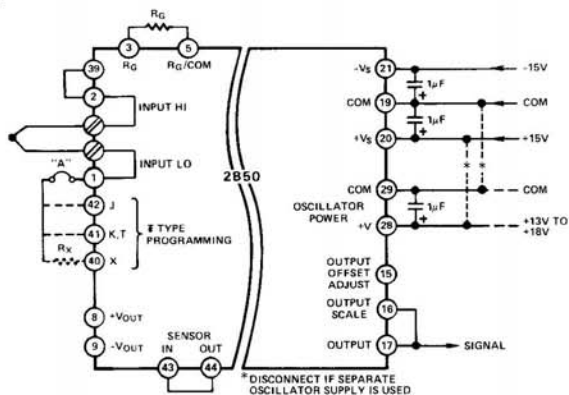

Figure 2. Basic 2B50 Application
The connections shown in Figure 2 are common to most applications using the 2B50, and, in many cases, will be all that is required.
Two sets of parallel thermocouple input connections are provided. The thermocouple input may be connected by screw terminals (Input+, Input -) or to terminal Pins 1(-) and 2(+) in cases where thermocouples are to be remotely terminated. The following sections describe a basic thermocouple application, as well as detail some optional connections to enhance performance in more demanding applications. Jumper A (Figure 2) is used to disconnect cold junction compensation circuitry during offset adjustments.
The gain of the 2B50 is set by a user-supplied resistor (R_G) connected as shown in Figure 2. Gain will normally be selected so that the maximum output of the signal source will result in a plus full scale output swing. The resistor value required is determined by the equation: $R_G = 200k\Omega / (G - 1)$.
2. Disconnect cold junction compensation circuitry by removing Jumper "A" (Figure 2).